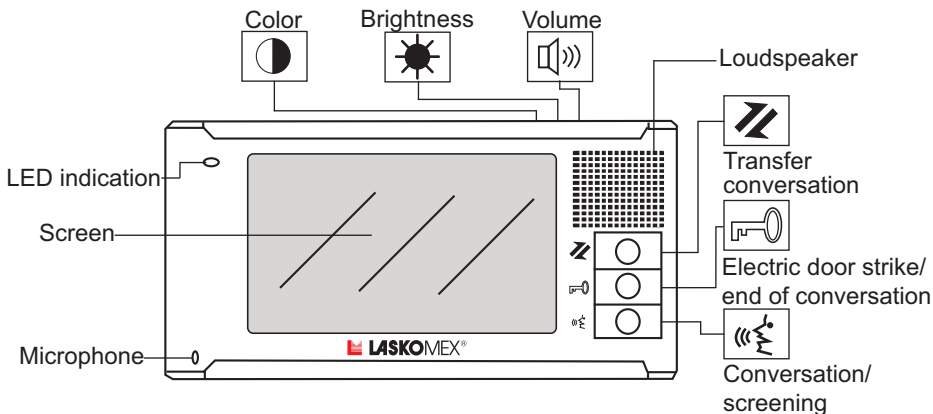

Figure 1. MVC-7001 videomonitor
- Push button ☞ (conversation - see Figure 1) to launch voice communication. In the case of two monitors mounted, once the voice communication is launched on one monitor, the other one switches off.
- It is possible to set volume, color and brightness on the MVC-7001 monitor (see Fig.1).